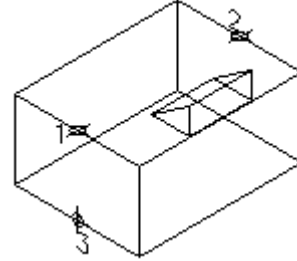

Figure 1
- a. Draw a box and a wedge with an approximate size as shown in figure 1.